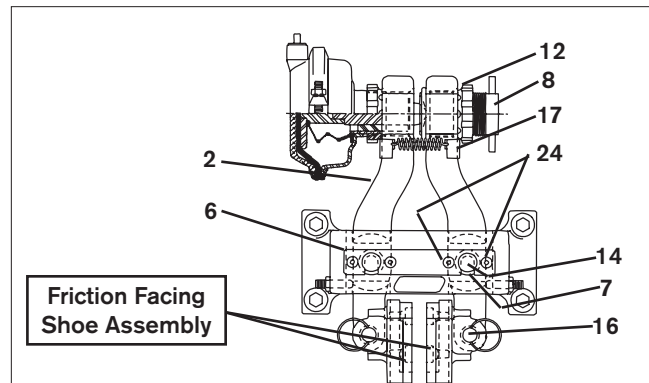

FIGURE 8
1. Loosen Adjustment Screw Spanner Nut (Item 12), and Adjustment Screw (Item 8) until Return Springs (Item 17) are free enough to be easily removed (See Fig. 8).
2. Remove Shoe Pins (Item 16), and Friction Facing Shoe Assembly (See Fig. 8).
3. Remove Pivot Pin Retaining Plate Screws (Item 24) and Retaining Plate (Item 6) (See Fig. 8).
4. Remove Pivot Pins (Item 7), and Arms (Item 2) from Main Frame (Item 1) (See Fig. 8).
5. Press out damaged Bearings (Item 14), and replace with new Bearings (See Fig. 8).